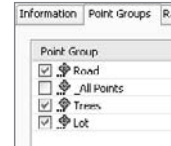

Figure 5.24
10. Switch to the Point Groups tab. Check the boxes next to the Road, Trees, and Lot point groups, as shown in Figure 5.24.